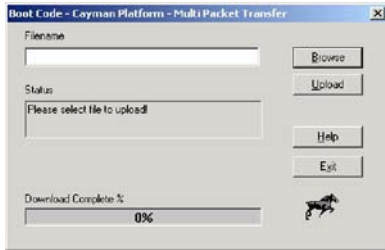

Figure 5 Preparing to select file EKP***.os
- ii. Following is displayed (Figure 5).